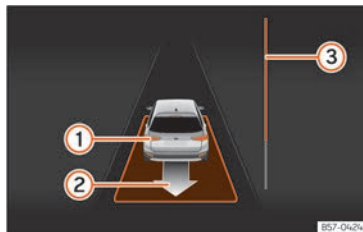

Fig. 207 On the instrument panel display: exit a parallel parking space.
The progress bar »» Fig. 207 ③ indicates the distance to cover »» page 288.